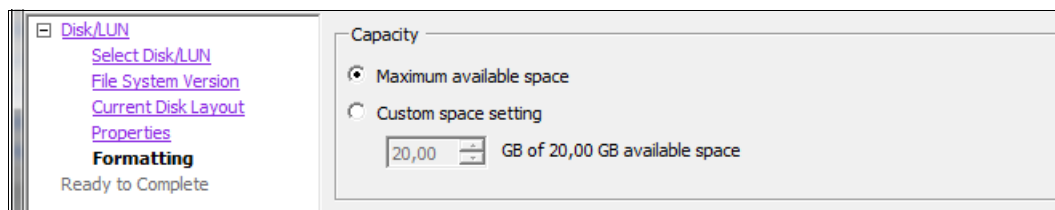

Figure 7-14 Datastore size
- f. Select the size of the new datastore from the page shown in Figure 7-14. Click **Next**.